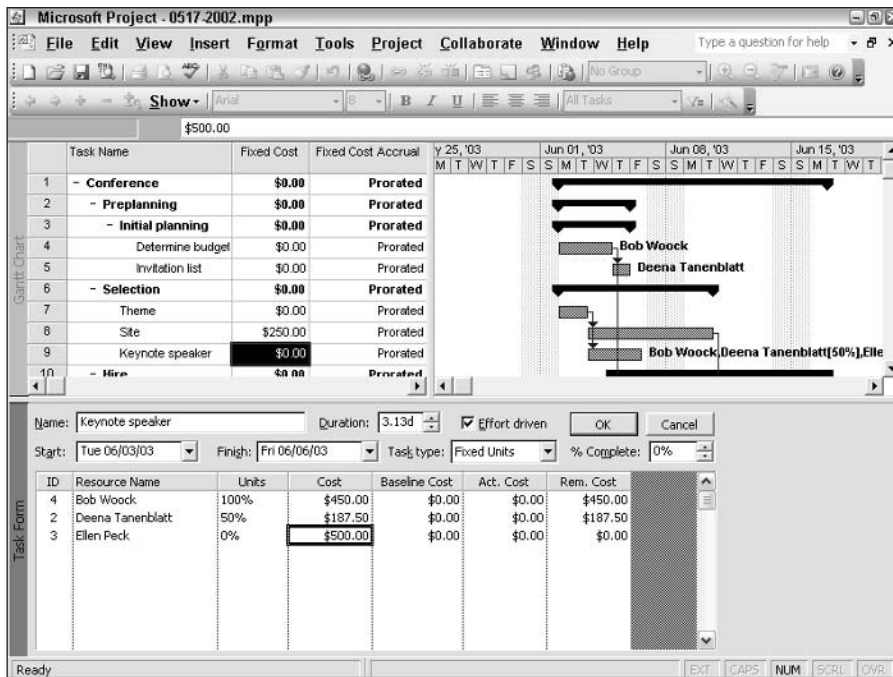

Figure 5-19: Setting up a fixed-cost resource.
1. Set up the resource in the Resource Sheet view. If the resource has some sort of “per unit” cost (an hourly or daily rate), assign that rate in the Std. Rate field. Otherwise, assign a standard rate of \$0 as I did in Figure 5-19. Supply the fixed-cost amount in the Cost/Use field.